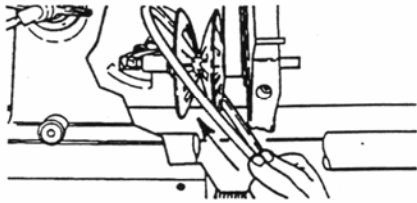

Fig. 3
6. Slide the belt completely off the drive shaft, then push it up and back into the headstock, away from the control sheave. See Fig. 3.